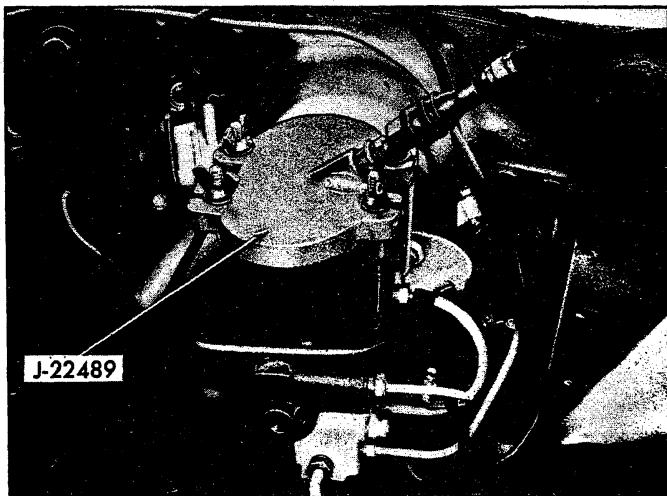

Fig. 6—Brake Bleeder Adapter Tool J-22489—Installed
3. Install brake bleeder adapter J-22489 (fig. 6) on main cylinder. Connect hose from bleeder equipment to bleeder adapter and open release valve on bleeder equipment.